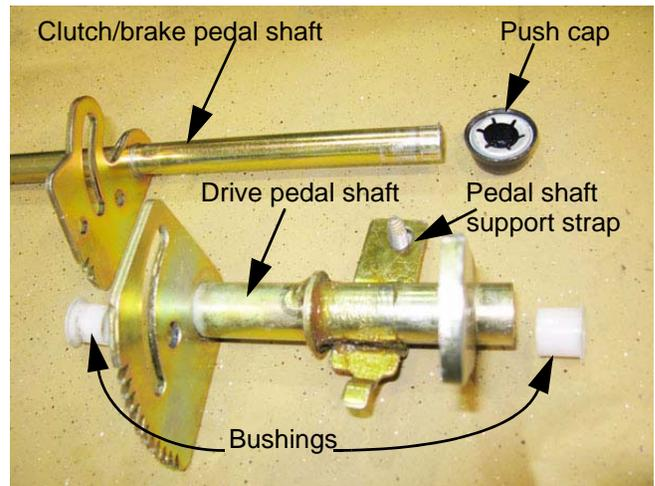

Figure 5.32
14. Inspect the pedal shaft components individually. Replace any parts that are worn or damaged. See Figure 5.32.